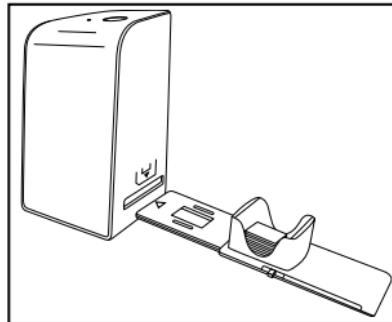

Figure 2
- ◆ Insert slides the right way round into the shaft provided on the slide magazine ①. Around 10–12 slides (depending on size) can be added to the magazine.
- ◆ Push the slide magazine ⑥ into the slot ④ on the right with the viewing window at the front. Ensure that the triangle marking is at the front and visible (see figure 2).